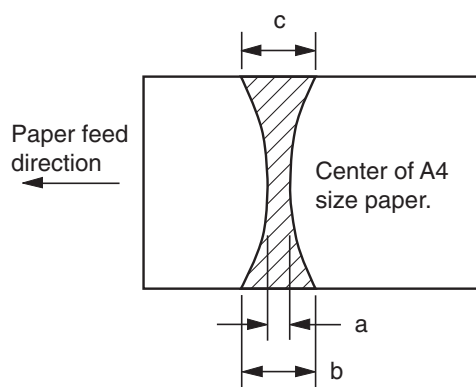

Figure 4-3 Fixing Nip Width
- (1) Make an all-black print of A4 size using an EP cartridge, and bring the print to the customer's site.
- (2) Place the all-black print in the multi-purpose tray of the printer, with the printed side facing down.
- (3) Select face-up delivery by shifting the delivery switching lever downward.
- (4) Press the test print switch.
- (5) Turn OFF the printer when the leading edge of the print emerges at the face-up tray. Open the rear cartridge cover and take out the print about 60 seconds later.
- (6) Measure the width of the glossy band across the paper and check that it meets the requirements as shown in Figure 4-3.